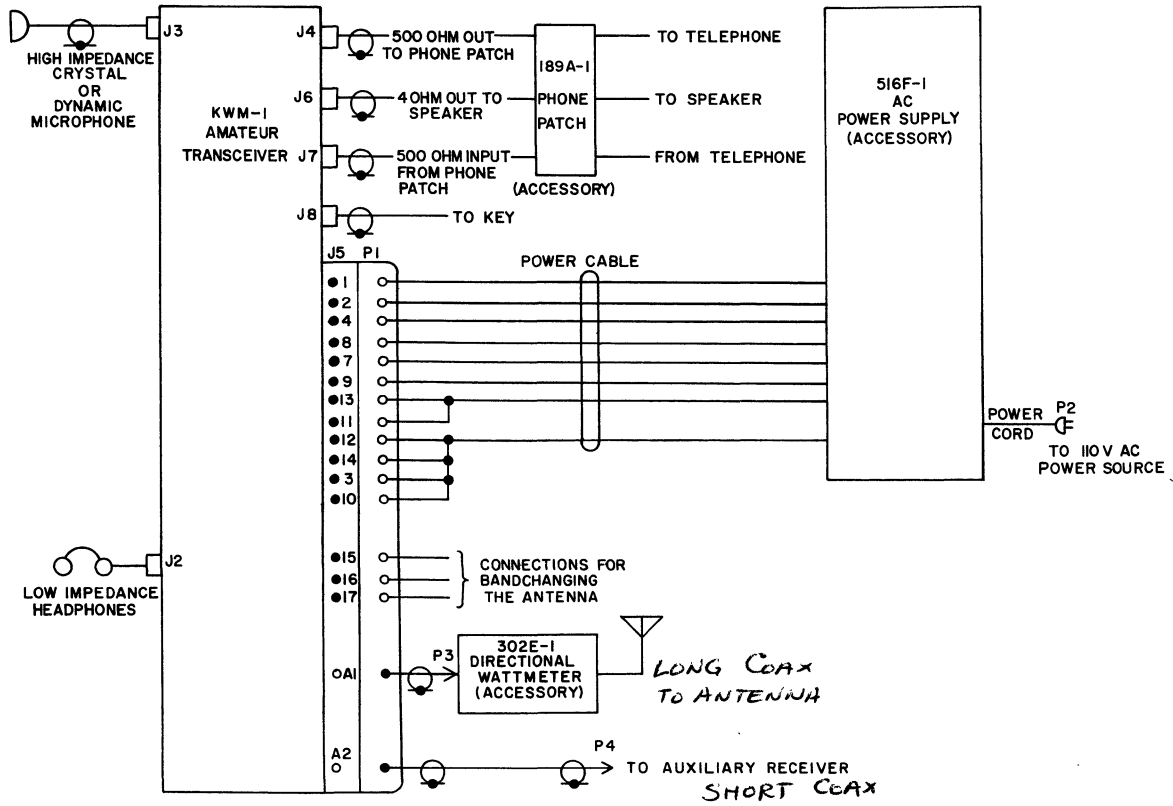
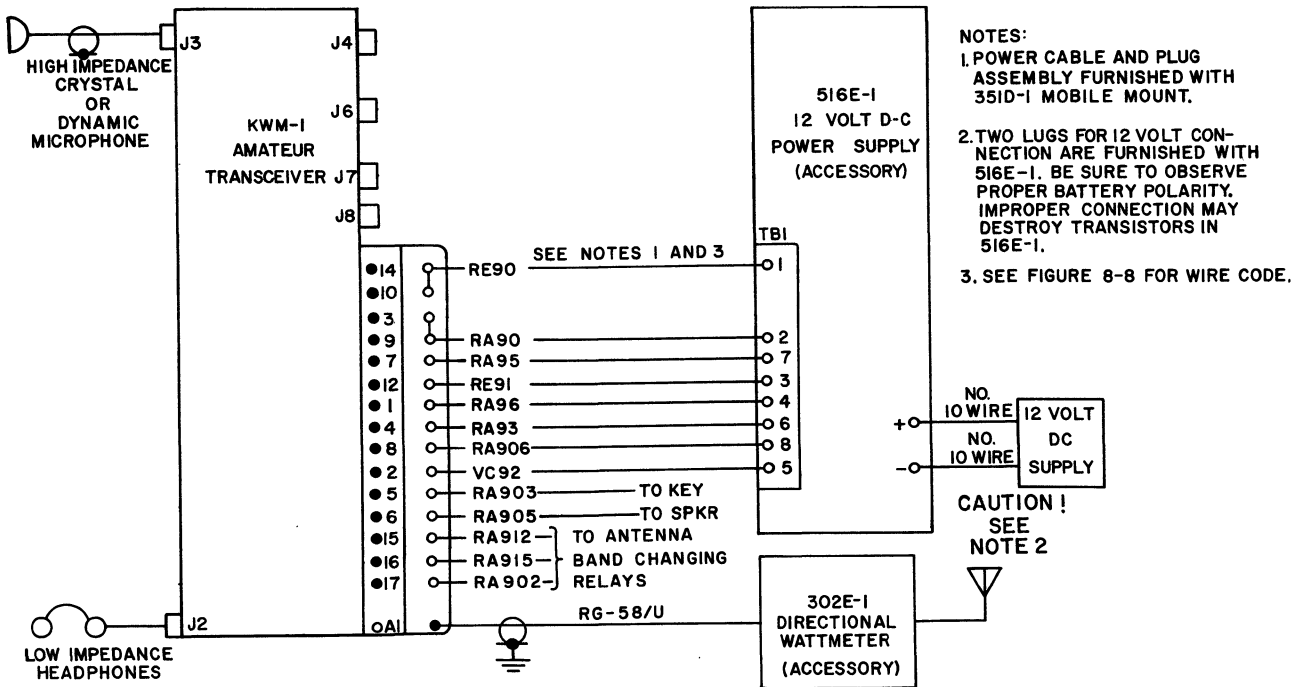
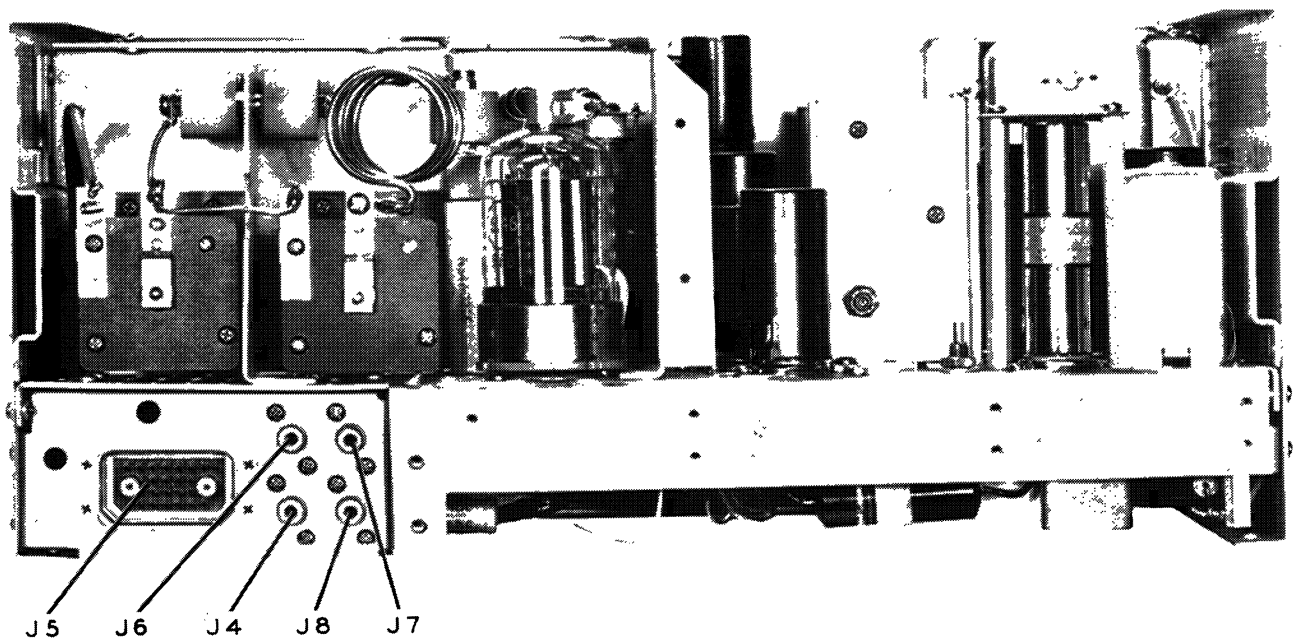

Figure 1-1. Fixed Station Interconnections
Figure 1-2. Mobile Interconnections
Figure 1-3. Jack Locations
For fixed station installation, refer to figure 1-1, and for mobile installation, refer to figure 1-2. Refer to section III for special mobile considerations.
b. Connect associated equipment to the KWM-1 as shown in figure 1-1. Refer to figure 1-3 for KWM-1 jack locations.
c. Determine necessary length of power cable (furnished) to connect 516E-1 to KWM-1, and cut to required length. Connect power supply, speaker, and microphone as shown in figure 1-2. Remove cover from the 516E-1 Power Supply terminal board to make connections to power supply terminal board.